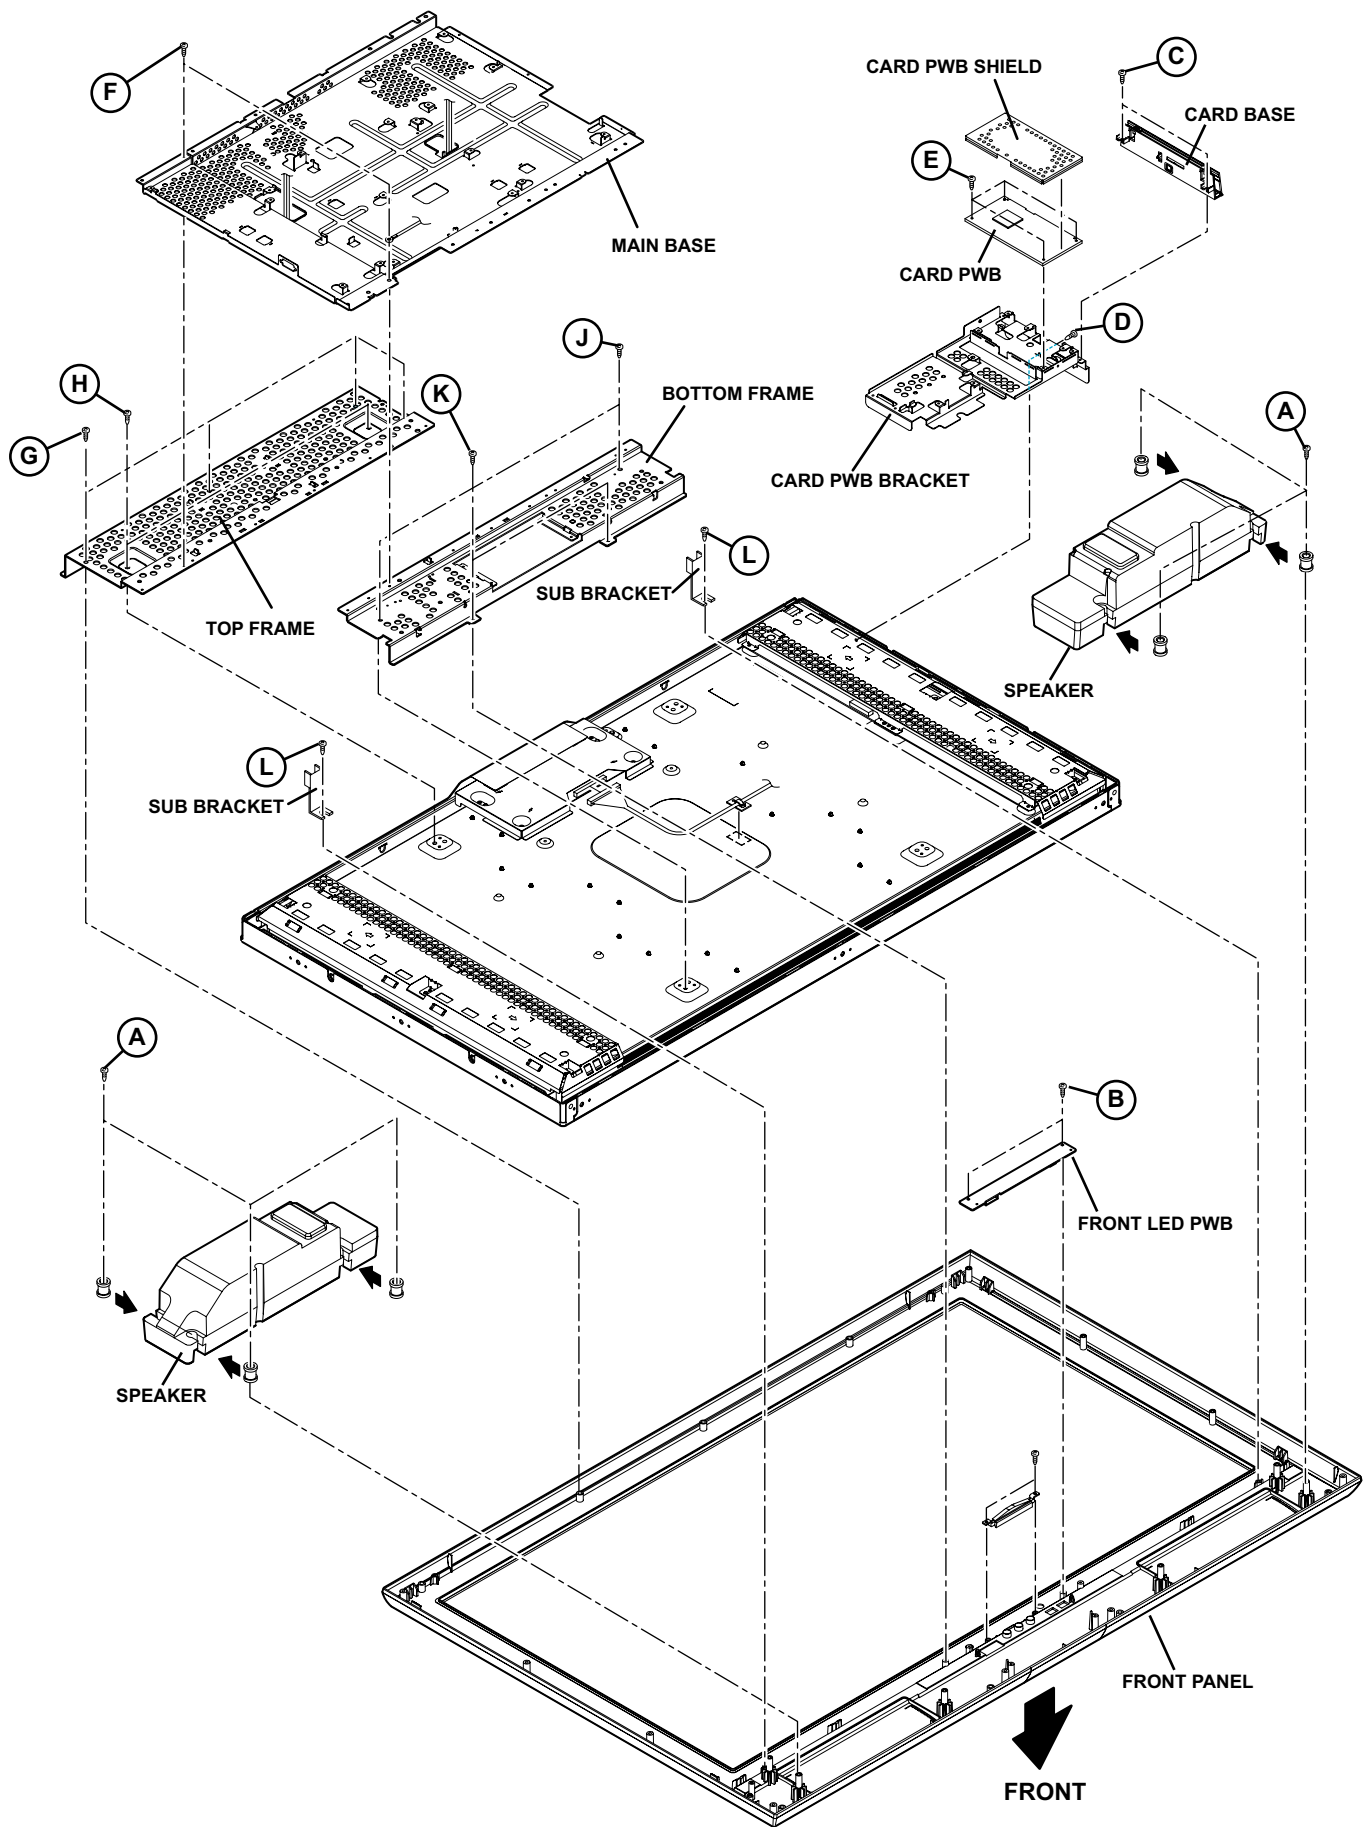

Fig.2
3.2.14 REMOVING THE SPEAKER (Fig.2)
3.2.15 REMOVING THE FRONT LED PWB (Fig.2)
- (1) Remove the 2 screws **[B]**, then remove the FRONT LED PWB.
3.2.16 REMOVING THE LED LENS (Fig.2)
- (1) Remove the 2 screws **[M]**, then remove the LED LENS.
3.2.17 REMOVING THE CARD PWB (Fig.2)
3.2.18 REMOVING THE LCD PANEL UNIT (Fig.2)